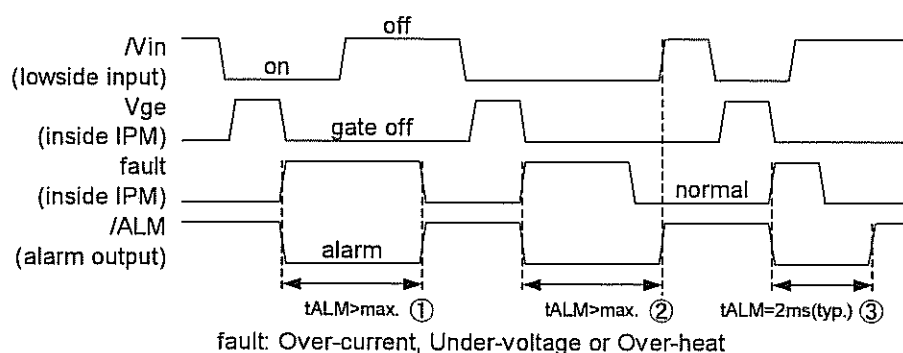

Figure2. Input/Output Timing Diagram.
| Alarm Signal Hold Time                                | $t_{ALM}$      | $ALM - \text{GND}$Fig.2                                                     | $T_c = -20^\circ\text{C}$ | 1.1  | -    | - ms     |
Necessary conditions for alarm reset (refer to ① to ③ in figure2.)
- ① This represents the case when a failure-causing Fault lasts for a period more than  $t_{ALM}$ . The alarm resets when the input  $V_{in}$  is OFF and the Fault has disappeared.
- ② This represents the case when the ON condition of the input  $V_{in}$  lasts for a period more than  $t_{ALM}$ . The alarm resets when the  $V_{in}$  turns OFF under no Fault conditions.
- ③ This represents the case when the Fault disappears and the  $V_{in}$  turns OFF within  $t_{ALM}$ . The alarm resets after lasting for a period of the specified time  $t_{ALM}$ .